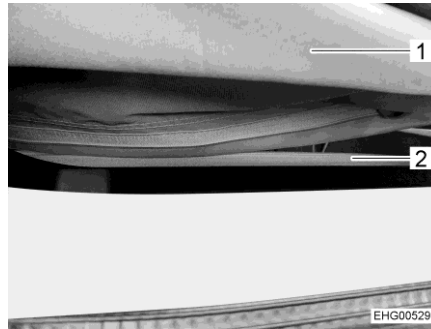

Fig. 54 Zip
- Fully open the zip (Fig. 54,2) on the underside of the bellows (Fig. 54,1).